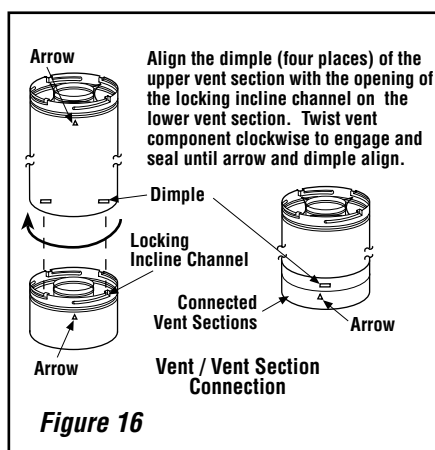

Figure 16
Push the vent component against the previous section until it fully engages, then twist the component clockwise running the dimples down and along the incline channels until they seat at the end of the channels. **This seating position is indicated by the alignment of the arrow and dimple as shown in *Figure 16*.**
E. Attach vent components to each other - Other vent sections may be added to the previously installed section in accordance with the requirements of the vent tables. To add another vent component to a length of vent run, align the dimpled end of the component over the inclined channel end of the previously installed section, adjusting the radial alignment until the four locking dimples are aligned with the inlets of the four incline channels of the previous section. Push the vent component against the previous section until it fully engages, then twist the component clockwise running the dimples down and along the incline channels until they seat at the end of the channels. **This seating position is indicated by the alignment of the arrow and dimple as shown in Figure 16 on Page 14.**
H. Change vent direction - At transition from or to a horizontal/inclined run, install the SV4.5E45 and SV4.5E90 elbows in the same manner as the straight vent sections. The elbows feature a twist section to allow them to be routed about the center axis of their initial collar section to align with the required direction of the next vent run element. **Twist elbow sections in a clockwise direction only so as to avoid the possibility of unlocking any of the previously connected vent sections.** See **Figure 16 on Page 14**.